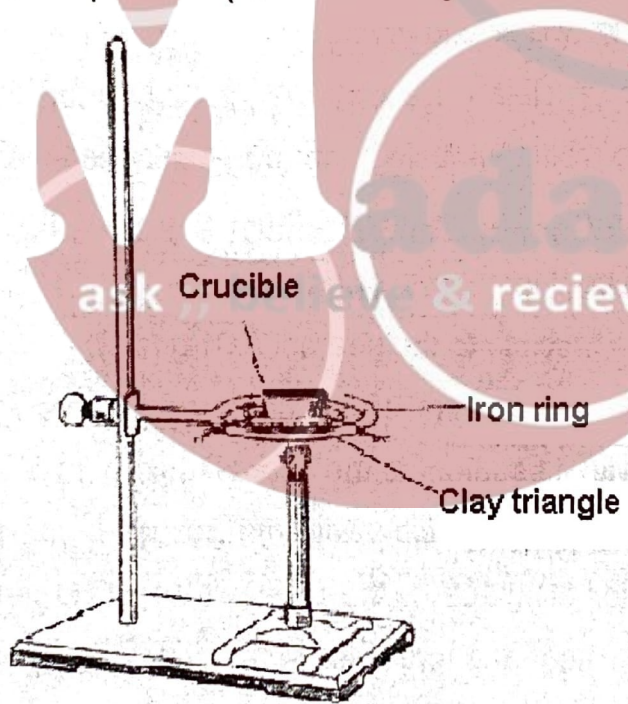

Figure 2.1. The correct arrangement of the ring, clay triangle, crucible and the burner.
2. Place the crucible on a clay triangle supported by an iron ring (Figure 2.1) and heat it to redness using the non-luminous flame of the Bunsen burner. Turn off the Bunsen burner and allow the crucible to cool to room temperature (without moving the crucible).